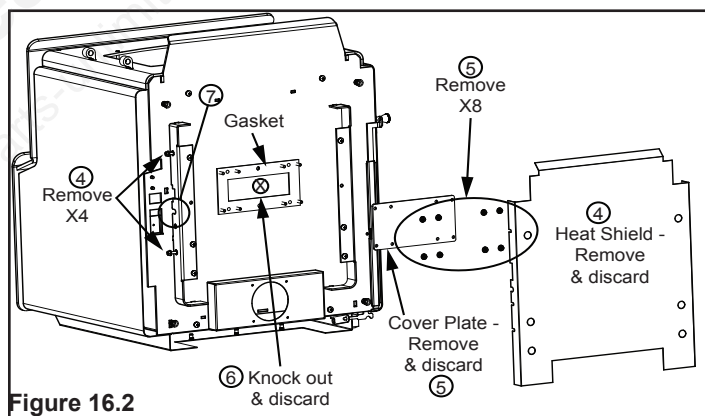

Figure 16.2
3. Lay appliance on its back on a protective pad or pallet (**Figure 16.2**).
4. Remove heat shield by loosening the four bolts using 3/8 open end wrench (**Figure 16.2**).
5. Remove 8 nuts that hold the cover plate on using a 7/16 socket wrench; discard cover plate (**Figure 16.2**).
6. Remove knock out from bottom of firebox by using a hammer (**Figure 16.2**).
3. Lay appliance on its back on a protective pad or pallet (Figure 16.2 on page 16).
4. Remove heat shield by loosening the four bolts using 3/8 open end wrench (Figure 16.2 on page 16).
5. Remove 8 nuts that hold the cover plate on using a 7/16 socket wrench; discard cover plate (Figure 16.2 on page 16).
6. Remove knock out from bottom of firebox by using a hammer (**Figure 16.2 on page 16**).